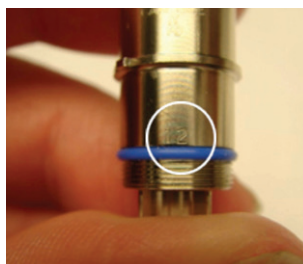
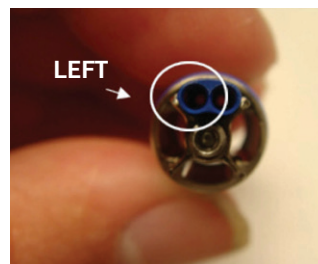

Figure 18: Engraved pin number
Figure 19: Inserting contacts into housing
12. Using the pin numbers engraved on the connector piece as a guide (Figure 18), insert each contact into the housing position listed in the following table; twist the contact as needed to align the insulator (Figure 19).